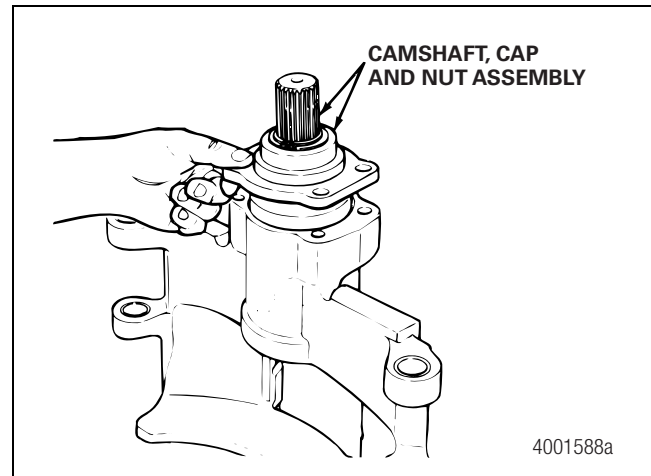

Figure 7.2
5. Lift the camshaft, cap and nut assembly out of the caliper. Figure 7.2.